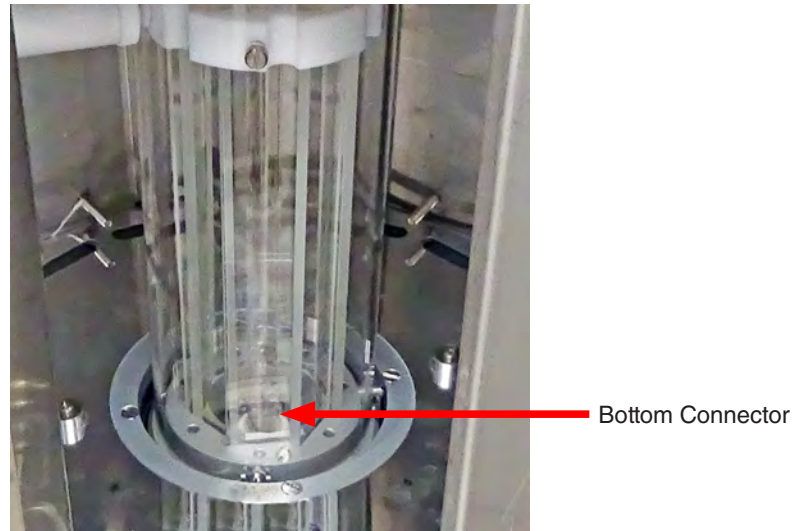

Figure 16.1i: Lamp bottom connector.
11. Gently push down on the lamp holder to seat the lamp in the bottom connector (Figure 16.1i). There should be slight resistance when doing this. If more than slight force is necessary, the lamp pin is probably not lined up with the connector, or the lamp holder is not lined up with the lantern.